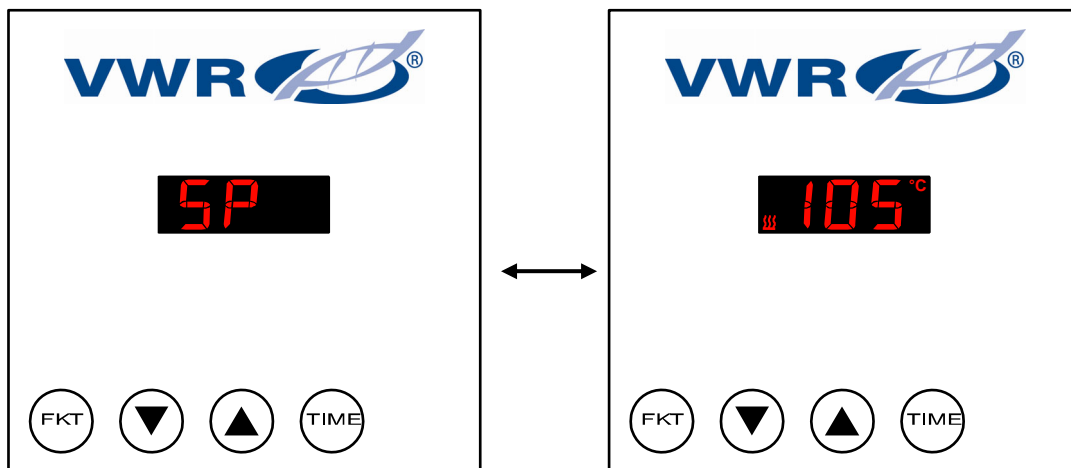

Figure 9: Displaying the parameter for the temperature set point (example)
- Press the <FKT> button to enter into the operation mode menu. The controller's display shows alternately the selected parameter (e.g. SP) and its value (e.g. 105) (see Figure 9).